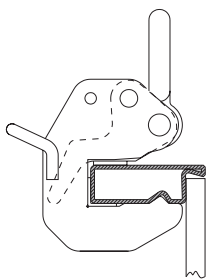

Fig. 26.3
3. Release the safety lever and press it back to its start position so that the crane hook is locked completely (Fig. 26.3).